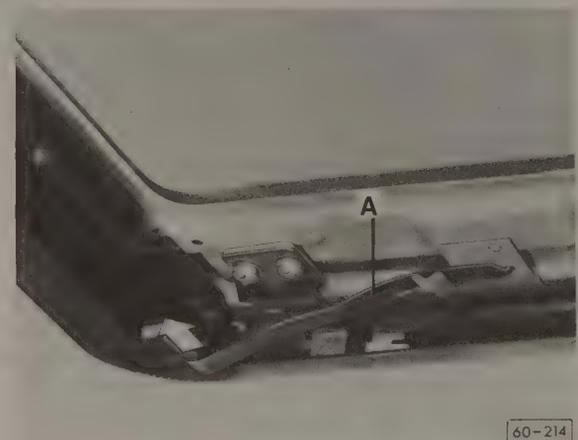
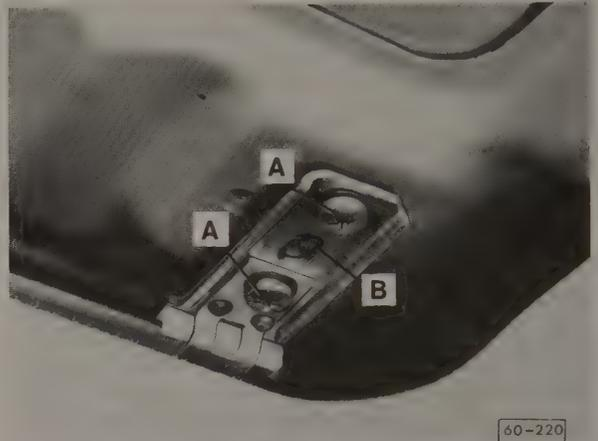
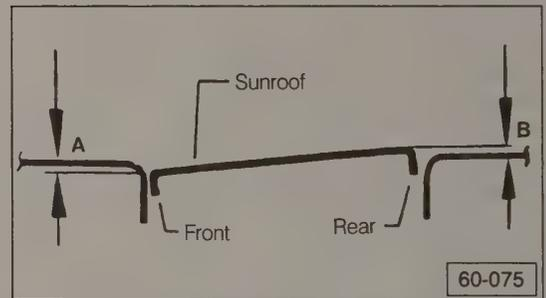
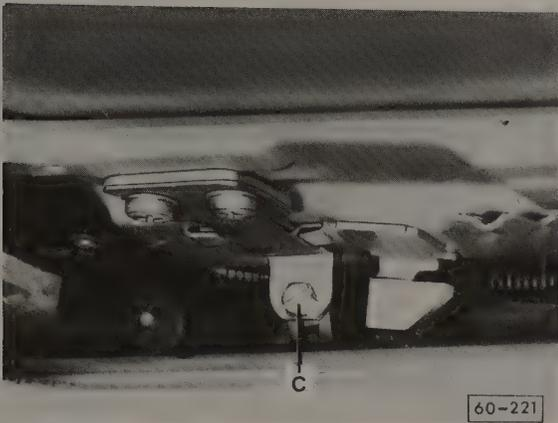

Fig. 7-3. Leaf springs (A) being pivoted inward (arrow).
Fig. 7-6. Sunroof front height being adjusted. Screws A hold front guide to sunroof. Screw B adjusts height.
Fig. 7-7. Correctly adjusted sunroof. Dimension A and dimension B are 0 to 1 mm (0 to .04 in.).
Fig. 7-8. Sunroof rear height being adjusted. Screw C is loosened for adjustment.
3. At the rear guides, unhook the left and right leaf springs and swing them inward as indicated in Fig. 7-3.
- Close the sunroof. Loosen the mounting screws that hold the sunroof to the front guides, then turn the adjustment screw shown in Fig. 7-6 until the front of the sunroof is aligned as shown in Fig. 7-7. Tighten the mounting screws.
- Remove the spring from the rear guides. See Fig. 7-3 above. Loosen the screws shown in Fig. 7-8 to adjust rear height by raising or lowering the sunroof by hand. Tighten the screws when the adjustment is correct as shown above in Fig. 7-7, and install the spring.